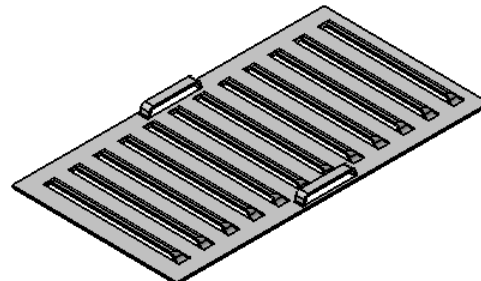

*Figure 15-141 Creating the point for the Bridge feature*
- Create the handles, refer to Figures 15-141 and 15-142.
1. Create a point on the top face of the base wall, as shown in Figure 15-141. Select the point and the top face of the sheet metal part. Then, choose the **Bridge** button from the **Stamping** toolbar; the **Bridge Definition** dialog box is displayed.